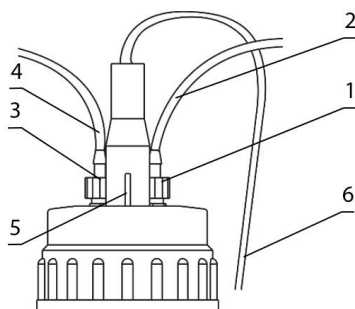
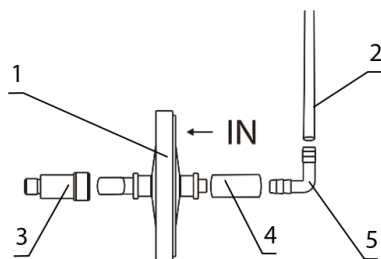
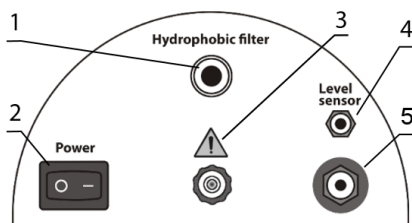

Figure 4. FTA-2i lid with sensor and tubing
Figure 6. FTA-2i filter setup.
Figure 7. FTA-2i rear panel.
1. Lid (see fig. 4). 2. Trap flask.
- Assemble the filter set (figure 6) and connect it to the port on the rear panel of the unit (fig. 7/1).
**Caution!** Position the filter with the **IN** marking pointing away from the unit (fig. 6/1).
- Attach the fitting (fig. 4/1) of the tubing to the filter (fig. 4/2) to the valve with **white** ring on the lid.
- Ensure that the filter set is tightly fixed in the slot (fig. 7/1).
- Attach the fitting (fig. 4/3) of the tubing for liquids (fig. 4/4 and 5/3) to the valve with the **blue** ring on the lid.
- Connect the sensor cable (fig. 4/5) to the lid of the unit and to the port on the rear panel of the unit (fig. 7/4).
- Connect the external power supply unit into the socket at the rear side of the unit (fig. 7/5) and position the unit for an easy access to the external power supply and the power switch.